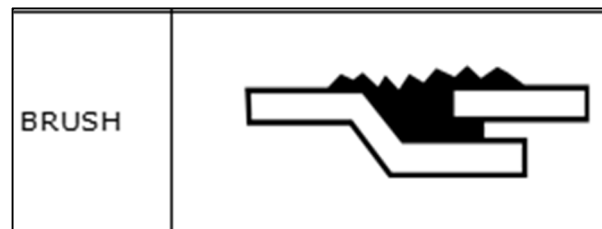

Figure 21
- Brush the seam sealer into the joint seams, as shown in Figure 21.